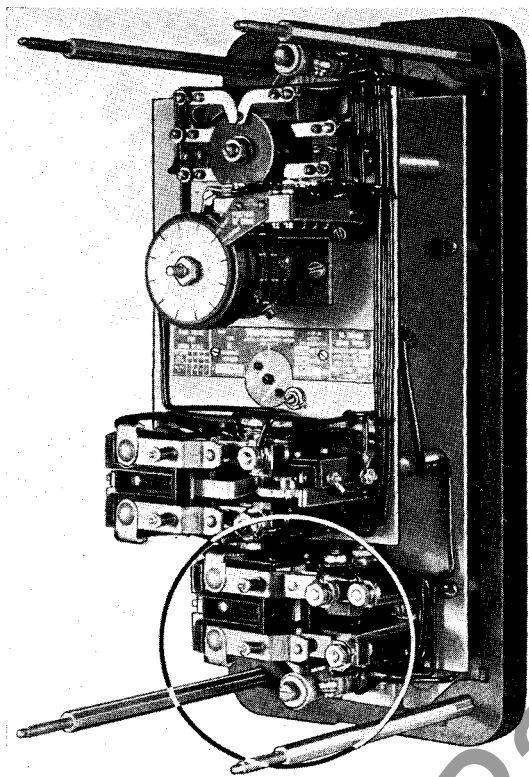

FIG. 4—TYPE RC RECLOSER WITH Z-ELEMENT SHOWN IN CIRCLE
- (1) Synchronous Motor Driven Cams.
- (2) Oilless Bearings—No oiling, no maintenance.
- (3) Motor leads brought out to separate terminals, to separate motor circuit from auxiliary relay circuits. This permits wider application for a given style recloser.
- (4) Motor has suitable series resistor allowing application on 230 volts or 115 volts, 60 cycle control source.
- (5) The auxiliary relays within the case have suitable coils and magnetic circuits to permit use on either 125 volts D-C., 115 volts A-C., or 230 volts A-C. control source without change. Facilitates easy station change-over to battery control.
- (6) Addition of Z-element to recloser eliminates necessity of additional control wiring when applying the RC recloser to existing electrically operated breakers. (Fig. 4).
- (7) Projection or semi-flush mounting.
- (8) Available for standard fixed or Plug-in mounting.